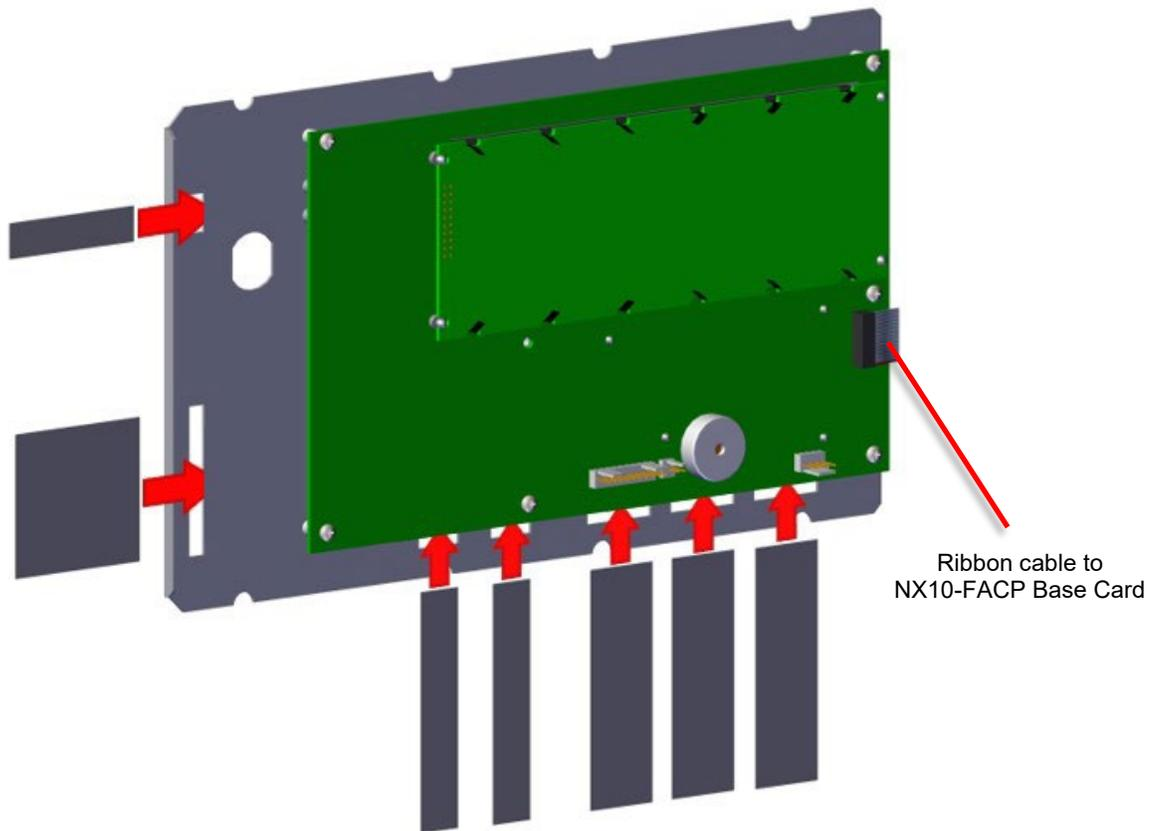

Figure 19 - NX10-ACS-DSP and Slide-In Labels
1. Make sure that the panel has been isolated from the main (AC) and battery (DC) power supplies.
4. Remove the four (4) panhead screws that secure the NX10-EM-PSU to the panel enclosure and carefully remove the NX10-EM-PSU module (Figure 19).